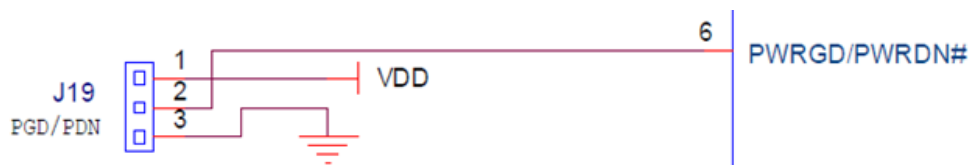

Figure 7. PWRGD/PWRDN# Pin Schematic Configuration
4. Ensure the PWRGD/PWRDN# pin is in the Low state before power up (PWRDN#). There is a jumper on pin 6 to easily select between High and Low. See Figure 7.